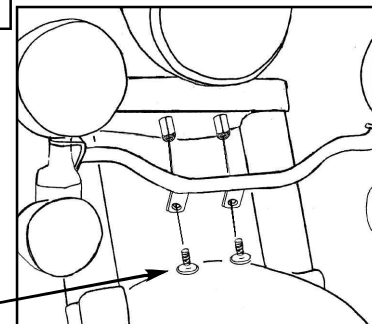

Figure 2.
- D. Install a M8 X 20 Socket Cap Bolt through mounting bracket into one Coupling Nut - do not fully tighten. Figure 2.